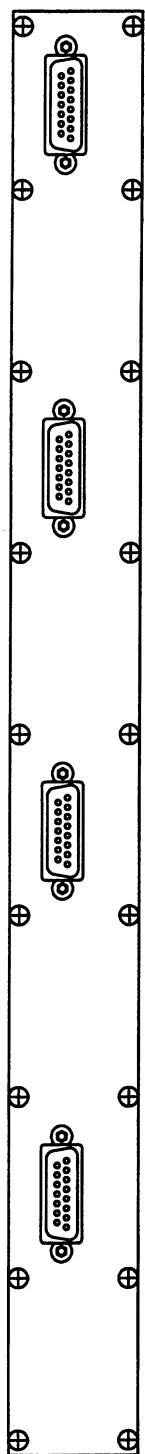

Fig. 5.4 Dismantling the Motherboard
3. Remove the 18 screws (see Fig. 5.4).